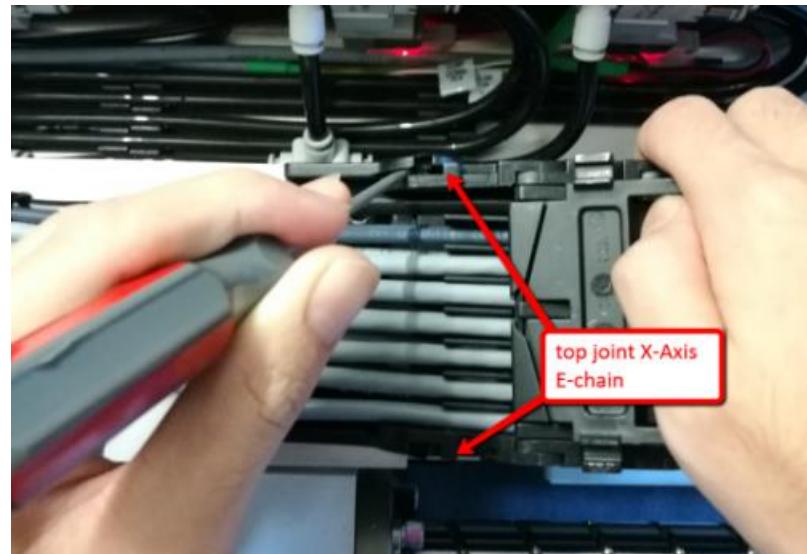

Figure 15
17. Use flat head screw driver to open X-Axis E-chain top joint as shown in Figure 15.